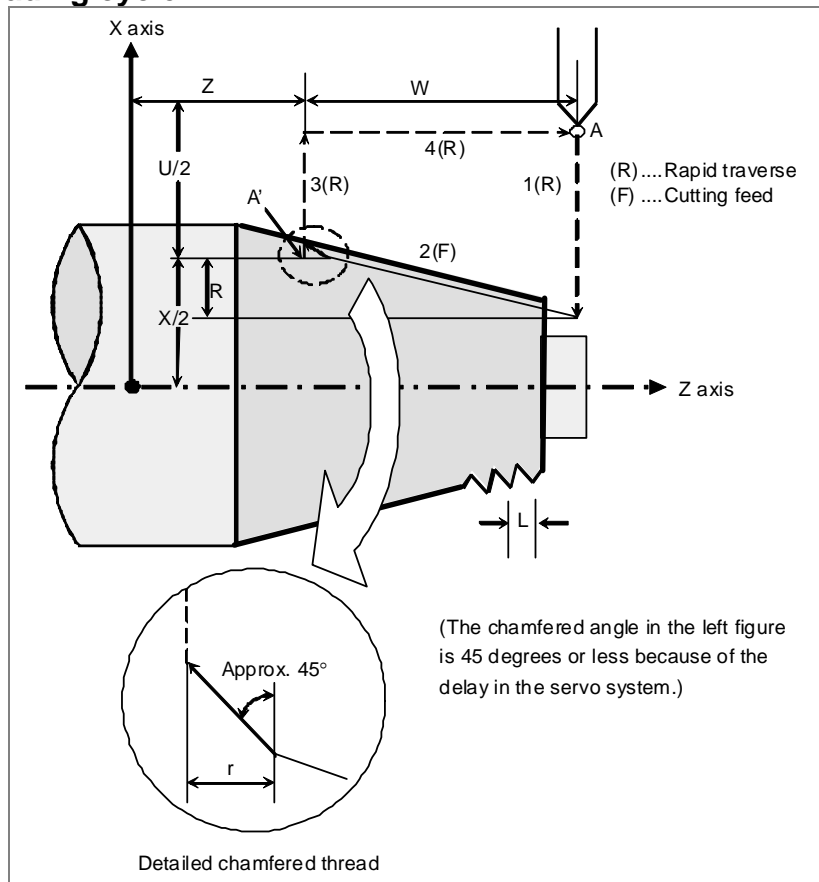

Fig. 5.35.2 (b)
5.35.2 Threading Cycle**Format****- Straight threading cycle****Fig. 5.35.2 (a)****G78 X(U)_ Z(W)_ F_ Q_ ; (G92 with G code system A)**
- X_,Z_ : Coordinates of the cutting end point (point A' in the Fig. 5.35.2 (a)) in the direction of the length
U_,W_ : Travel distance to the cutting end point (point A' in the Fig. 5.35.2 (a)) in the direction of the length
- X_,Z_ : Coordinates of the cutting end point (point A' in the Fig. 5.35.2 (b)) in the direction of the length
- U_,W_ : Travel distance to the cutting end point (point A' in the Fig. 5.35.2 (b)) in the direction of the length